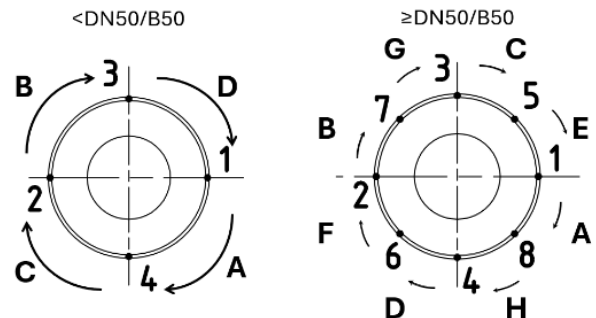

Fig. 5: Root layer
- b) Next, a root layer is pre-welded alternately using the pilgrim step method (Fig. 5). Continuous cooling must be ensured during this process.
- c) After closing the root layer, the fill / cover pass is completed on both sides using the pilgrim step method (Fig. 5). The opposite side of the welding zone is continuously cooled during the welding process.